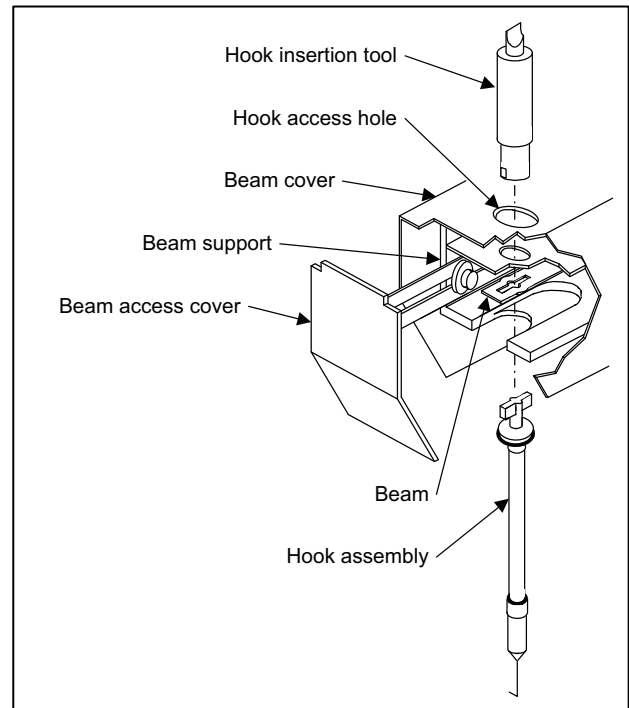

Figure 3-2. B1000 Beam
- 5 The hooks for the B1000 beam screw onto the bottom of the hook shaft as shown in figure 3-2. Note that the hook swings parallel to the beam with relatively little force but resists movement perpendicular to the length of the beam.